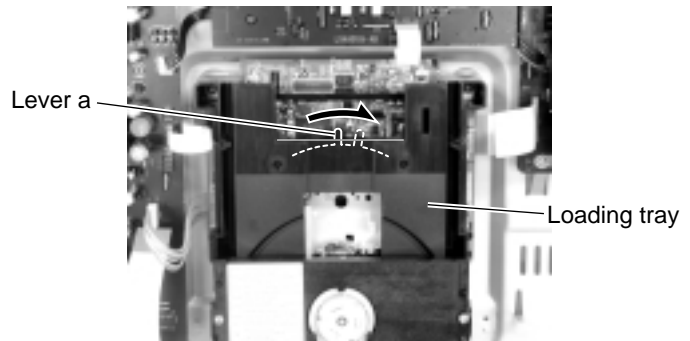

Fig.3
### ■ Removing the fitting (See Fig.3 to 5)
1. Lower the mechanism by moving the lever marked a in the direction of the arrow from the upside of the body (Refer to Fig.3).